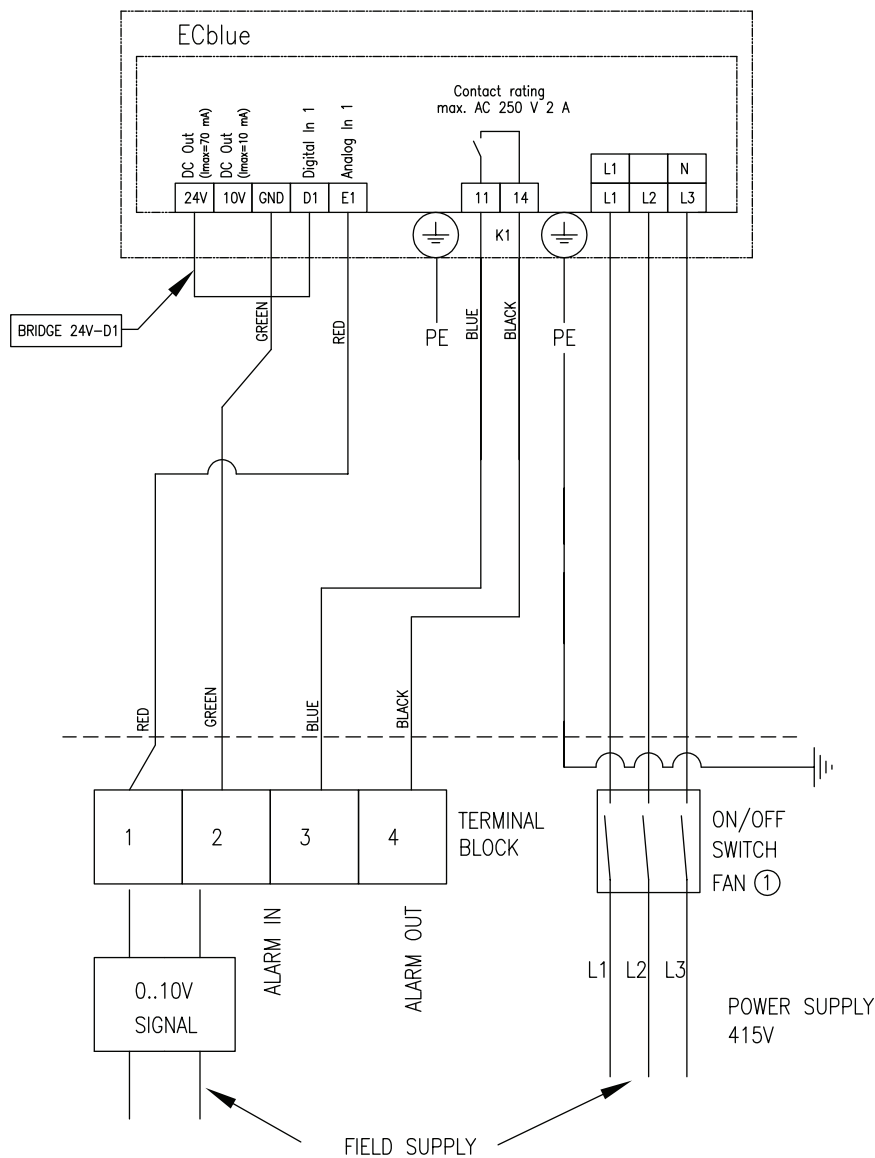

Figure 3
- These motors are to be wired in accordance with **Figure 3** (wiring diagram R55000079).